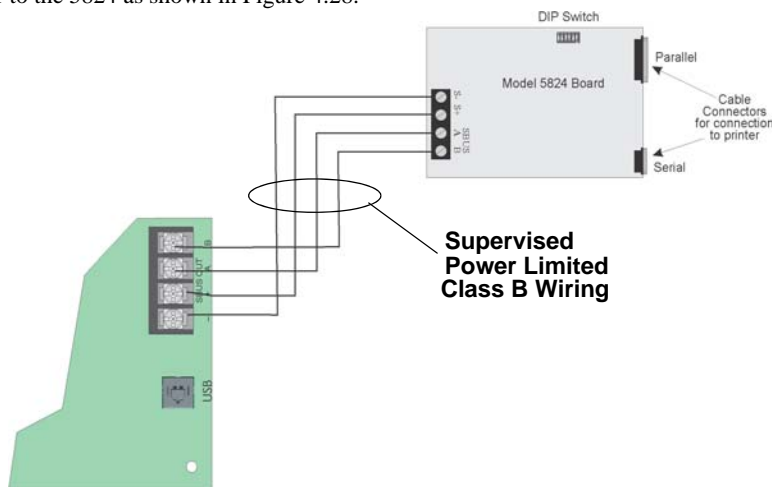

Figure 4.28 5824 Connection to the Panel
2. Connect the 5824 to the panel as shown in Figure 4.28.
5. Connect a printer to the 5824 as shown in Figure 4.28.